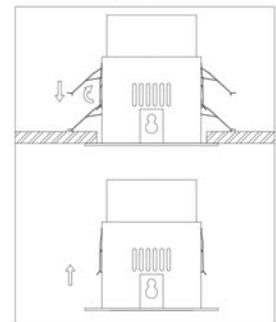

Fig.2
4. Fix the fitting on the ceiling with the spring as Fig 2.